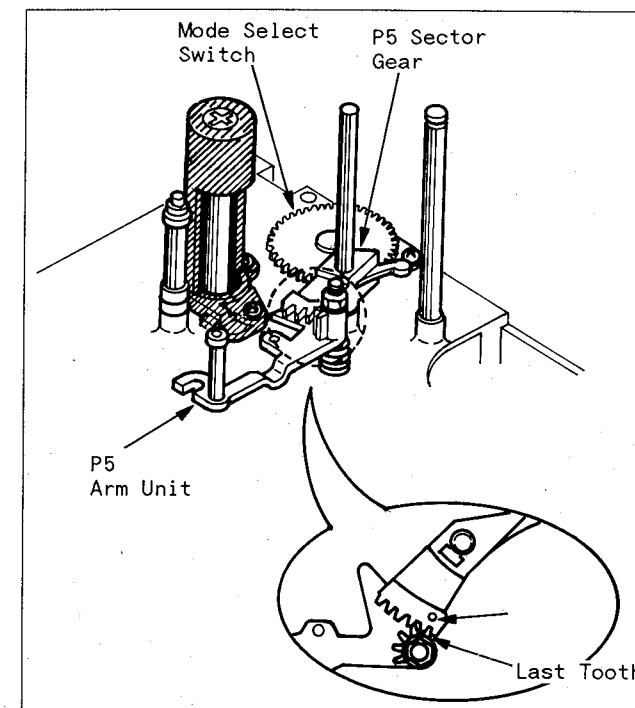

Fig. A9
1. Install the P5 Sector Gear so that the hole of P5 Sector Gear aligns with the last tooth on the P5 Arm Unit, refer to Fig. A9.